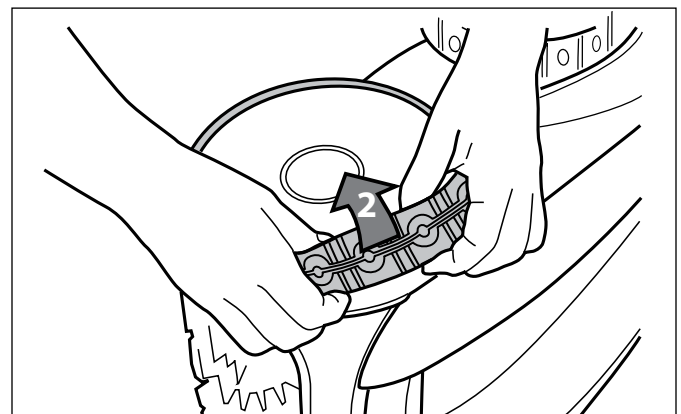

Figure 36. Remove the Old Tire
2. Remove the old tire (Figure 36).